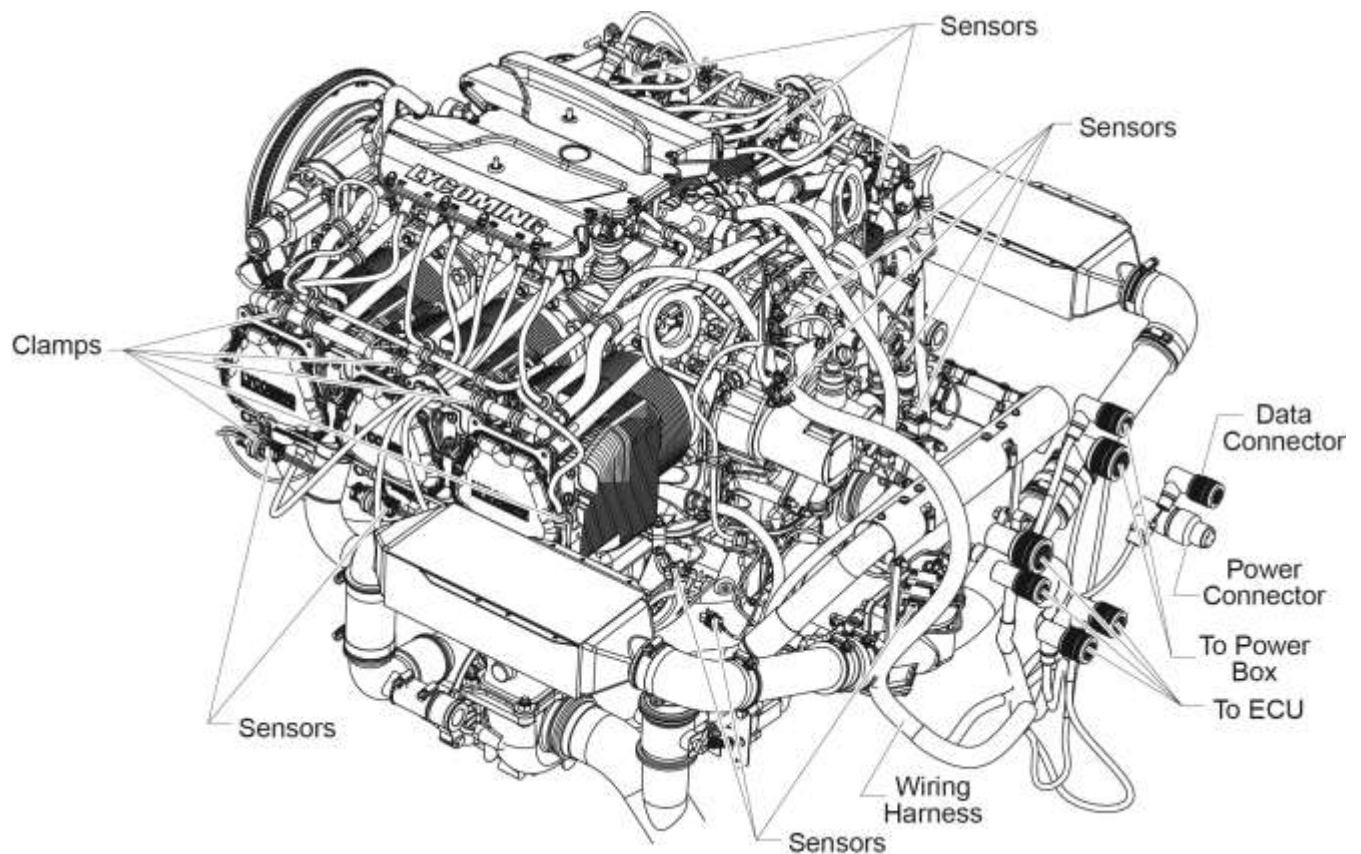

Figure 6
5. The Electrical System Includes Three Wiring Harnesses (Figure 6):